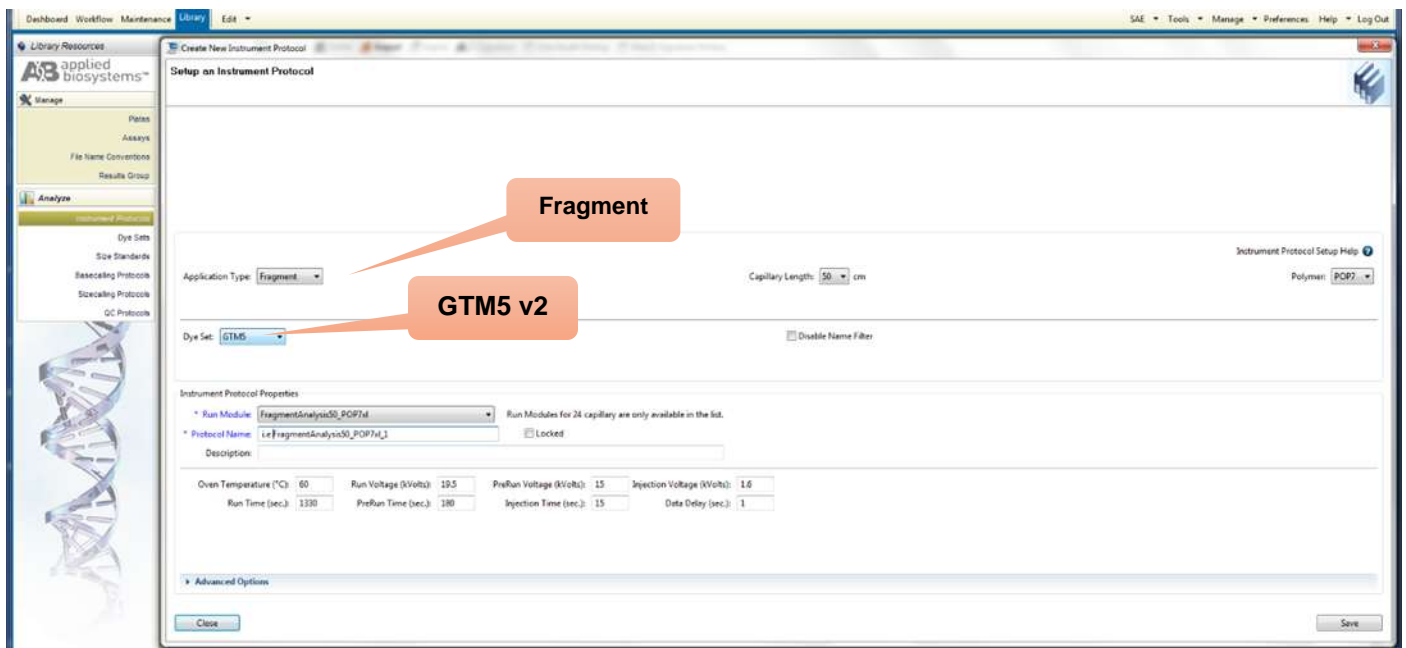

Figure 5. Screenshot for the “Create New Instrument Protocol” window on Applied Biosystems® 3500 Data Collection software
- User can apply settings as shown in the Figure 5. Make sure that you select GTM5 v2 as a *Dye Set* (same name as was used to perform the GTM5 v2 spectral calibration).
- c) Select “Create” (Figure 5)